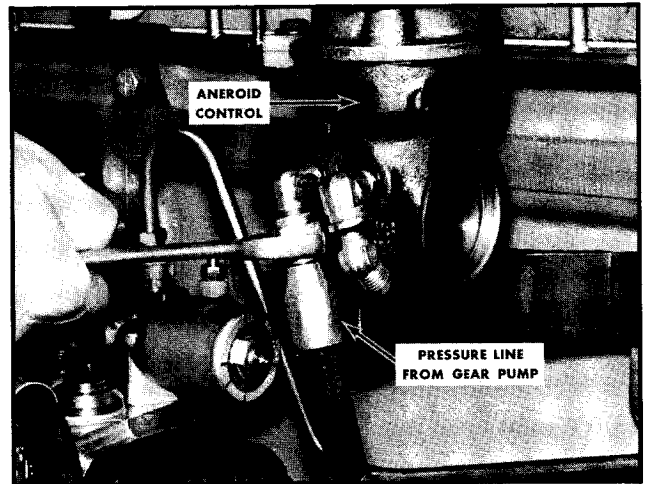

Fig. 12-83. Installing fuel pressure line from fuel pump
4. Install fuel pressure line from gear pump to "in" connection of control. Fig. 12-83.